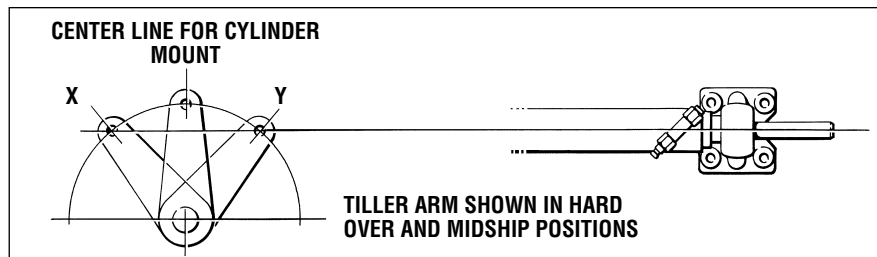

Figure 5-15.
Figure 5-15 illustrates the correct cylinder alignment, with the cylinder centerline defined by an imaginary line drawn through the tiller arm hole at both hard over positions. Use table 5-2 to determine the required tiller arm length (dimension 'A') for the application, based on required rudder torque and steering angle. Not all possible cylinder mounting configurations are shown, but all share the same key dimensions.
1. Determine the tiller arm length (dimension 'A') and foot bracket location (dimension 'B') from table 5-2. If the tiller arm length is already set, use figure 5-15 to locate the cylinder, keeping angles X and Y equal over the 7" stroke of the cylinder.